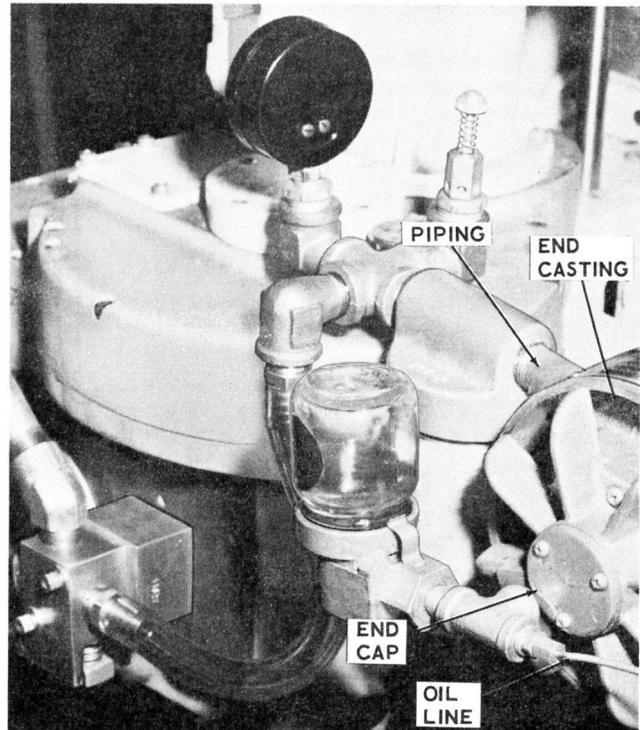

Figure 6-11. Vacuum Pump
- a. Disconnect inlet and outlet piping from the pump. Remove oil line (Figure 6-11).